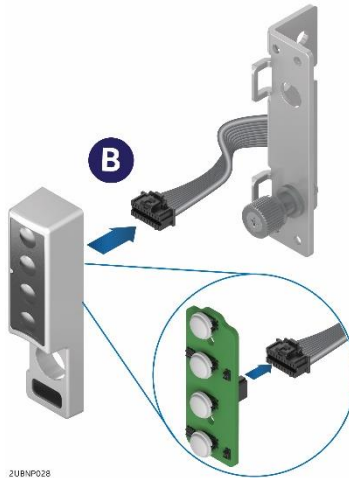

Figure 58. Disconnecting the front panel cable
2. Disconnect the cable from the front control panel board (B) as pictured in Figure 58.